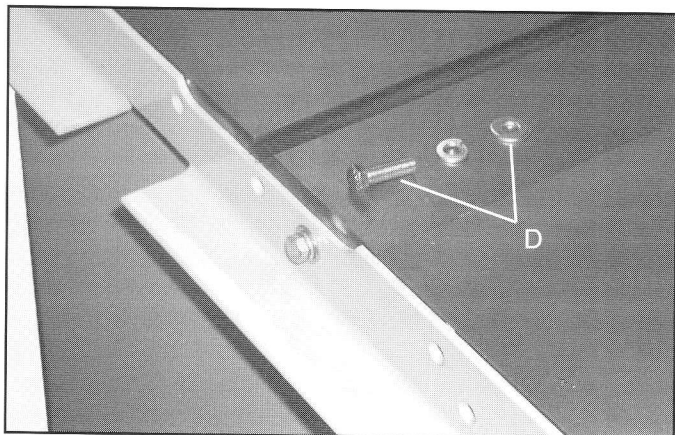

Fig. 8
**For Delta Unisaw** Thread the two 3/8-24 x 1-1/4" long hex head screw, lock washer and flat washer (D), supplied, Fig. 8, through the two holes in the rail and into the two threaded holes in the saw table.